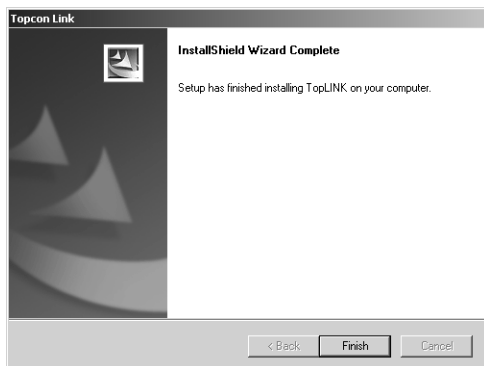

Figure 1-5. Installation Complete
7. Click **Finish** to exit the installation (Figure 1-5).